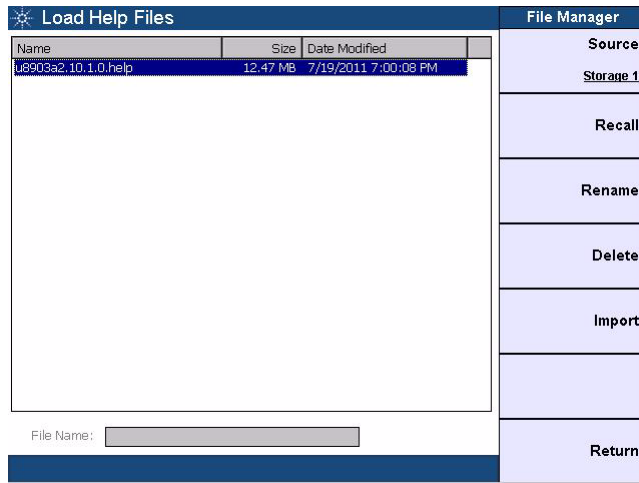

Figure 1-11 Load Help Files file manager
- 4 Select the .cmp file to be updated and press **Recall** as shown in Figure 1-11. Refer to “Recall” on page 97 for more information on the recall file manager.